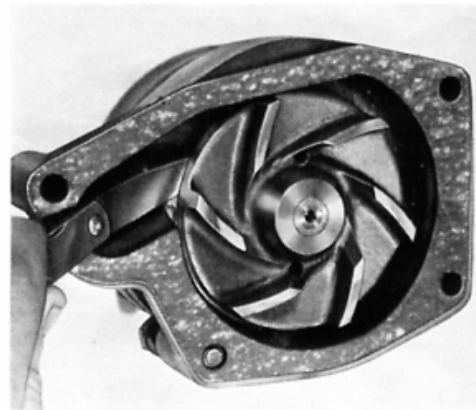

Fig. P.7.
8. Place seal (10) on the drive shaft so that this face registers with insert face.
9. Press impeller onto shaft over this seal until clearance given on Page P.7 exists between back face of impeller and pump body. This clearance can be checked as shown in Fig. P.7.